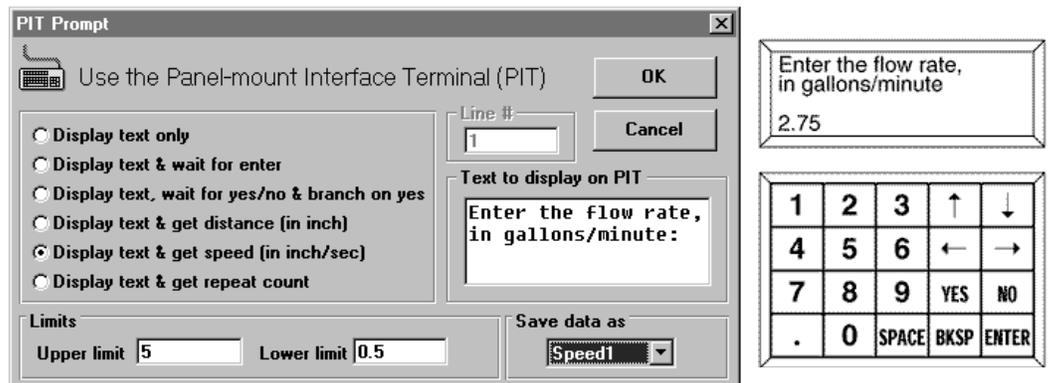

Figure 40 - PROMPT USER FOR SPEED
**TO GET A SPEED FROM THE USER (SEE FIG.40):**